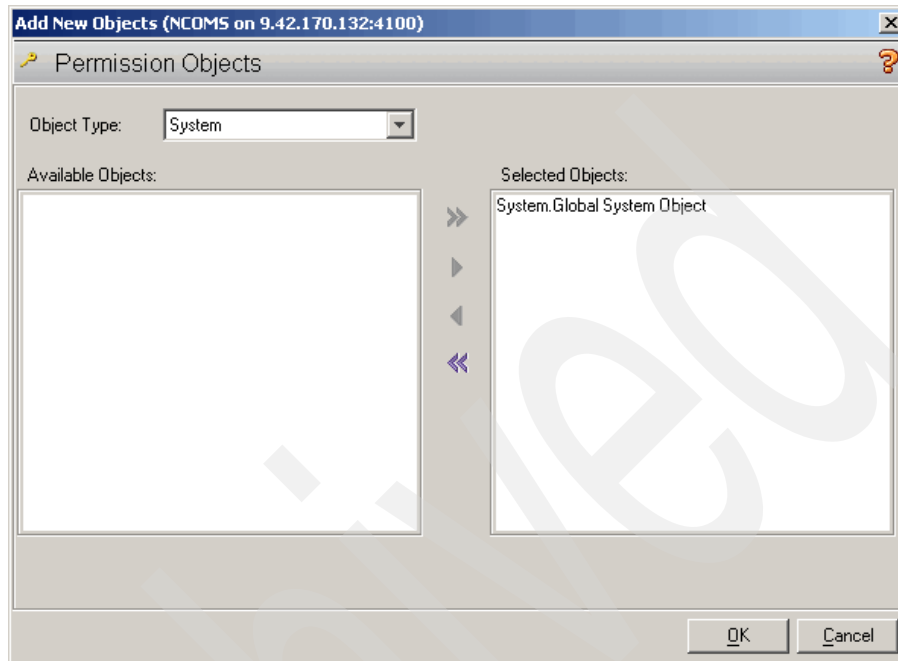

Figure 4-16 Permission Objects
4. Click the new authority icon (🔑) and select an existing object, as shown in Figure 4-16.